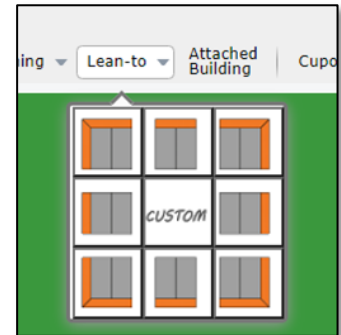

Figure 22: Select the building side on which to add a Lean-To.
2. On the *Openings and Building Additions* toolbar at the top of the page, click on the Lean-To drop-down arrow and select the location where the Lean-To is to be placed. (See Figure 22, right.) There are nine options: Front Left, Front, Front Right, Left, Right, Back Left, Back, Back Right, and Custom. Once you click on your choice, the *Create [Location] LeanTo* dialog box will open, as pictured in Figure 23 below, right.